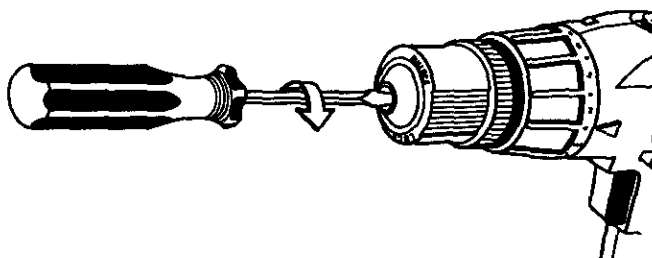

Fig. 15
- Open chuck jaws and remove allen wrench. Remove the chuck screw by turning it in a clockwise direction. See Figure 15. Note: The screw has left hand threads.